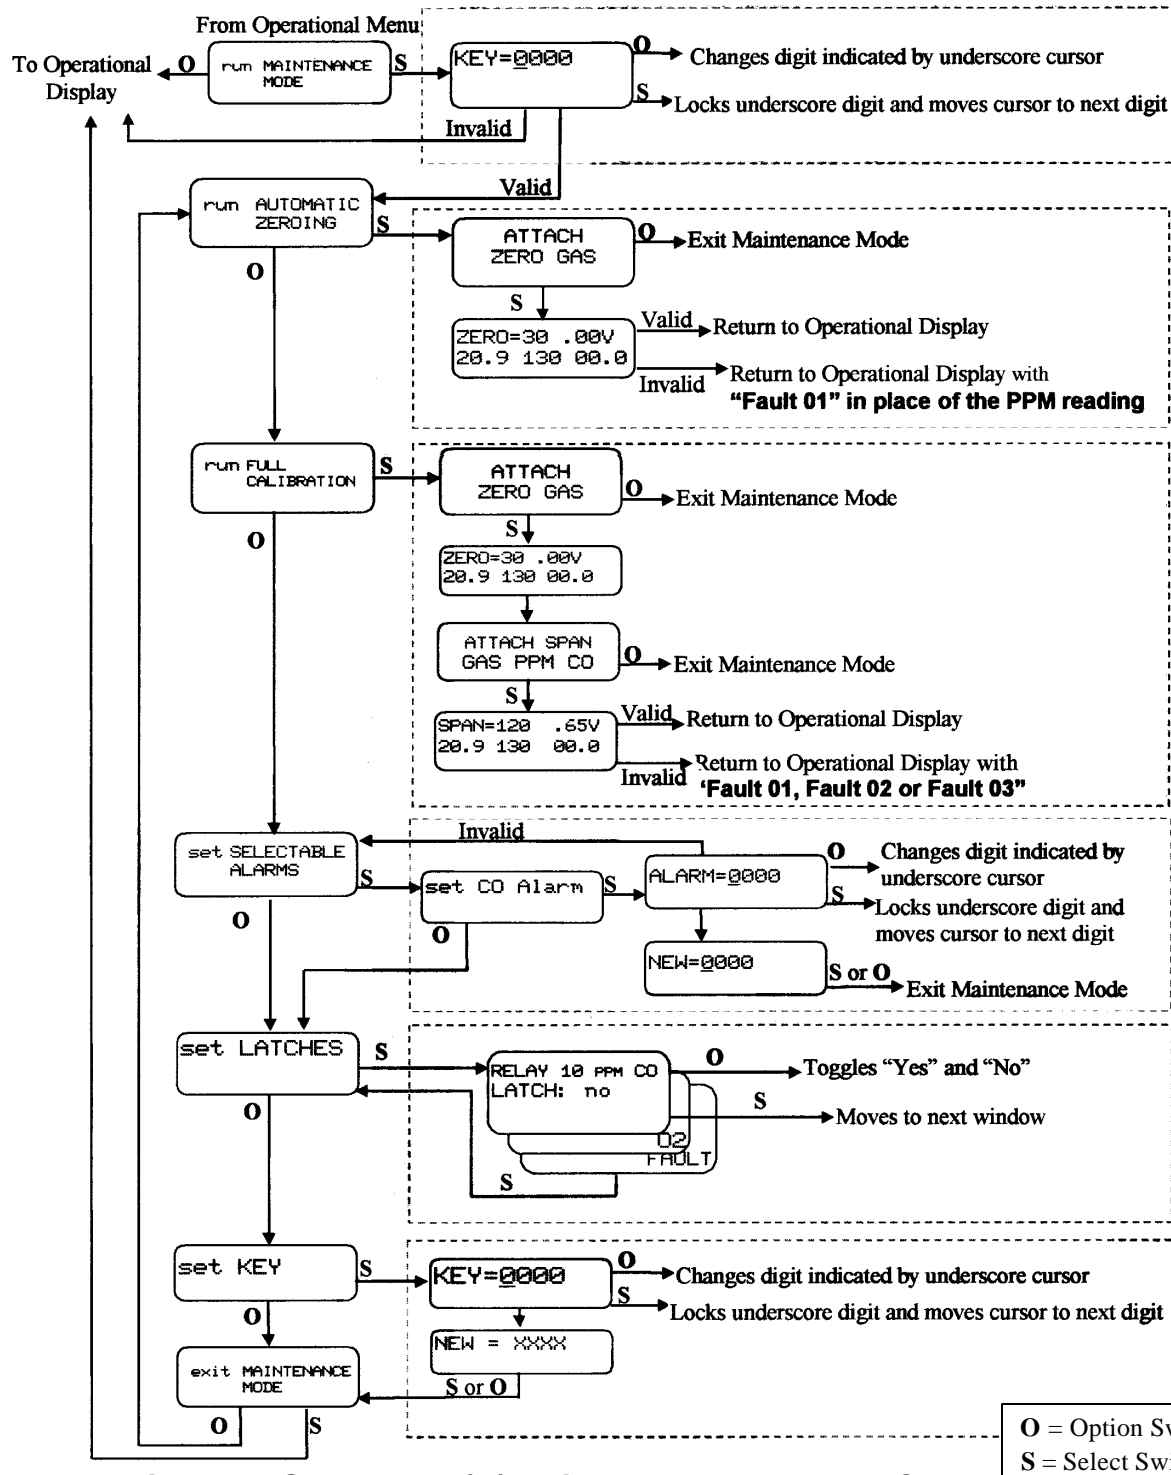

Figure 6: ISA-200 RAL(O) Maintenance Menu Flow Chart.
The ISA-200 RAL(O) maintenance menu is accessed with the OPTION and SELECT switches. The maintenance menu diagram is shown in **Figure 6 Maintenance Menu Flow Chart**. From the operational display, press the OPTION switch twice; "run MAINTENANCE MODE" is displayed.